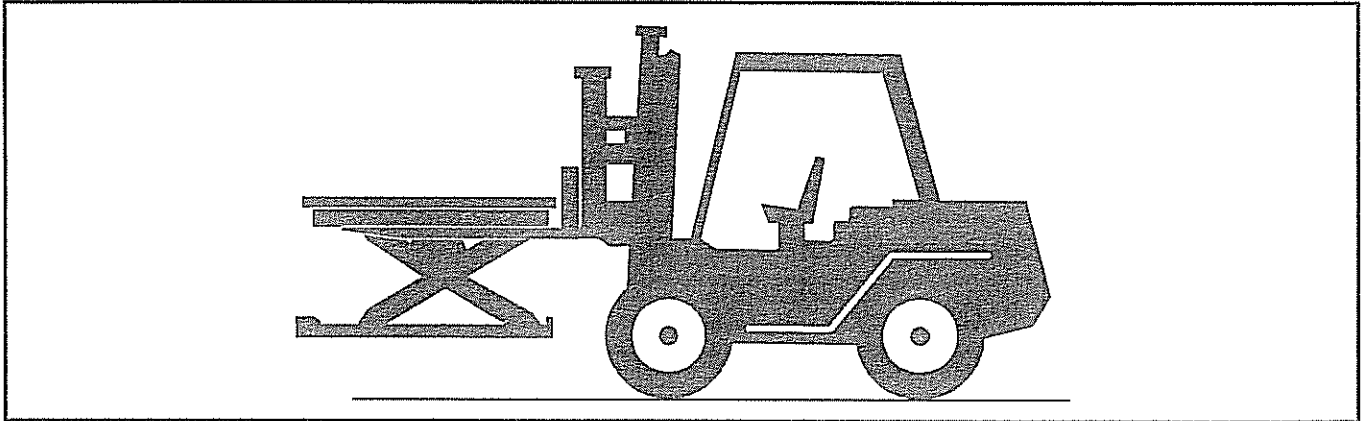

Figure 7 Handling the EZ Loader
6. Using a fork lift, position the forks under the platform structure, as detailed in Figure 7. Lift the EZ Loader off the pallet. Next, remove the pallet and place it off to the side. Position the EZ Loader in the desired location.
2. Using a fork lift, position the forks under the platform structure, as detailed in Figure 7.